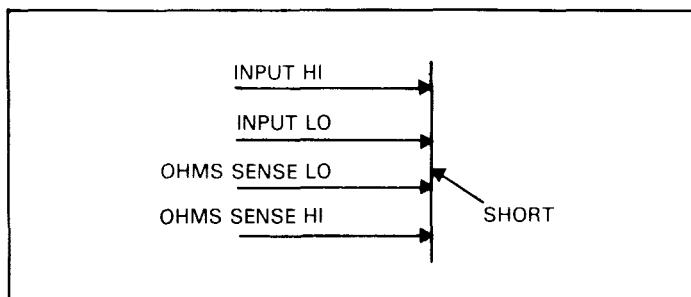

Figure 2-6. Four Terminal Zeroing
4. If readings are to be made on the 200Ω range, zero the instrument to obtain rated accuracy. To zero the instrument for resistance measurements: Short the test leads together after disconnecting them from the measured circuit; if 4-wire measurements are to be made, short all four test leads as shown in Figure 2-6, allow the reading to settle then press the REL button.